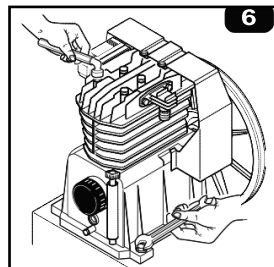

Fig. 6
2. Check that all bolts are properly tight, paying special care to the head and crank case (Fig.6). Refer to the table below for recommended torque settings for cylinder head bolts.